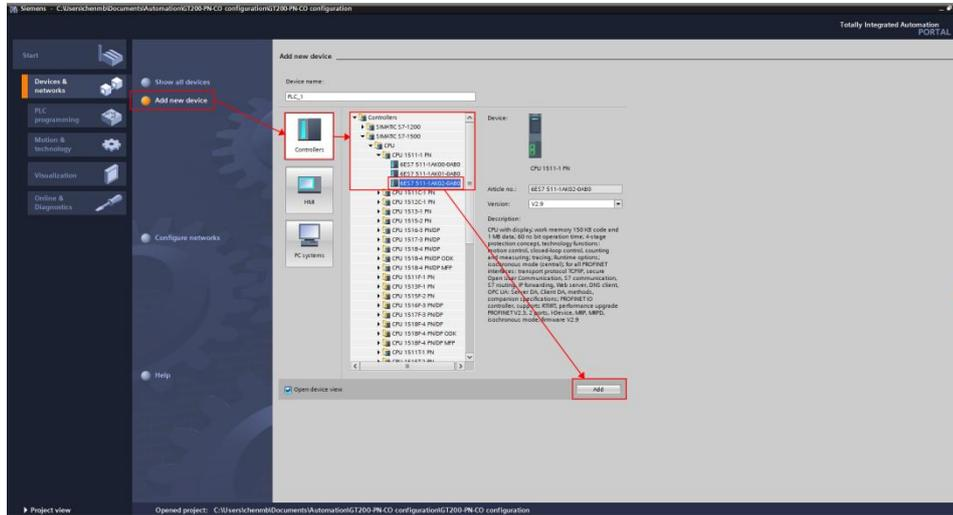

Figure 3: Add CPU model
1.4 After entering the new interface, click "Add New Device" on the left, Select the PLC device model in the device selection menu, take S7-1511 as an example, set the CPU type, and select the corresponding order number, Controllers>SIMATIC S7-1500>CPU>CPU1511-1PN>6ES7 511-1AK02-0AB0 as shown in Figure 3.